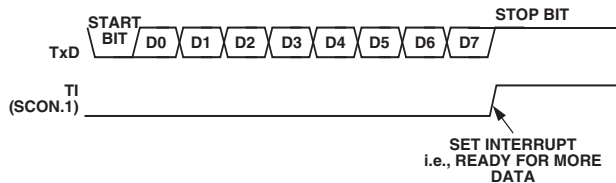

Figure 55. UART Serial Port Transmission, Mode 0
Transmission is initiated by writing to SBUF. The “write to SBUF” signal also loads a 1 (stop bit) into the ninth bit position of the Transmit Shift Register. The data is output bit by bit until the stop bit appears on TxD and the transmit interrupt flag (TI) is automatically set, as shown in Figure 55.